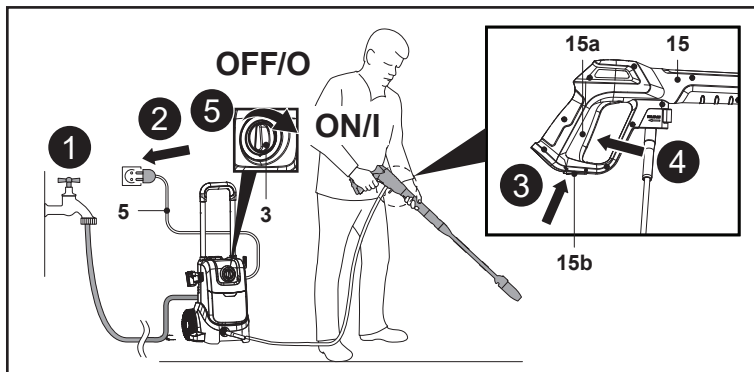

Fig. 15
1. Open the water tap to let the water flow into the pump (Fig. 15, step 1).
2. Connect the power cord (5) to power supply ensuring that the on/off rotary switch (3) is in the off position (Fig. 15, step 2).
3. Pull the trigger lock (15b) at the bottom of spray gun (15) back to unlock the spray gun trigger (15a) (Fig. 15, step 3).
4. Fully press the trigger (15a) until there is a constant flow of water to clear the air from the machine and water supply hose (Fig. 15, step 4). Release the spray gun trigger (15a) afterwards.
5. Switch on the machine by rotating the on/off rotary switch (3) to "I" position (Fig. 15, step 5).